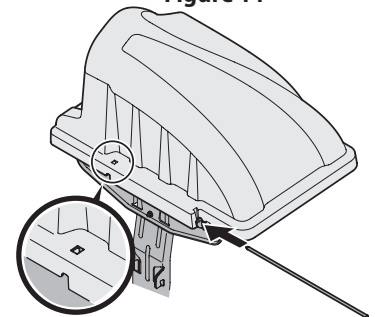
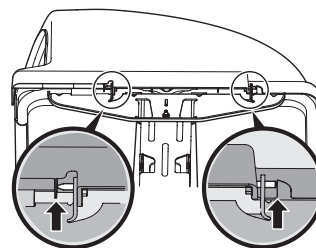

Figure 15
Figure 16
6. Slide the hinge pin (711-04988) into the hole located on the mounting tab, as shown in Figure 15. Use the cut-out window (see inset in Figure 15) to line up the hinge pin on the other side and push pin all the way in until it reaches the end-stop. At this point the pin clips into place and is secured by a tab in the bagger cover. See Figure 16.